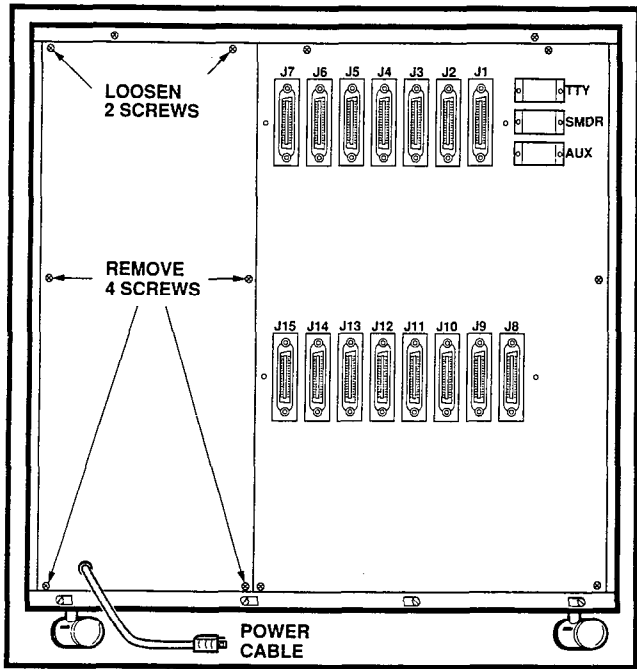

FIGURE 4-1—PERCEPTION_e
- 2) Loosen two screws, remove and retain four screws securing the basic cabinet rear cover plate, and remove the rear cover plate (Figure 4-1).